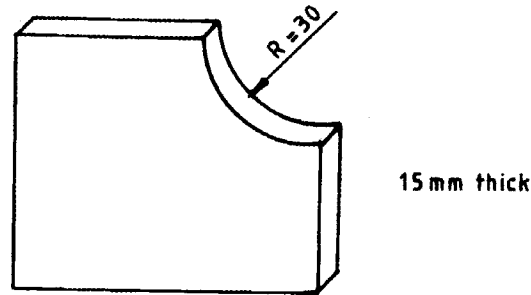

Figure 3
- 7 Figure 3 shows the corner of a work piece with a curve. (3 marks)